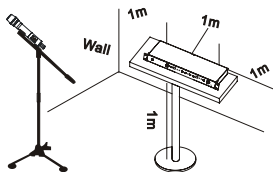

Fig.4
1. In order to achieve the best results, the receiver should have a minimum 1 metre clearance on all sides from the floor or walls. The distance between the transmitter and antenna should be over 1 metre, as in Fig. 4. The receiver should be kept away from sources of possible interference.